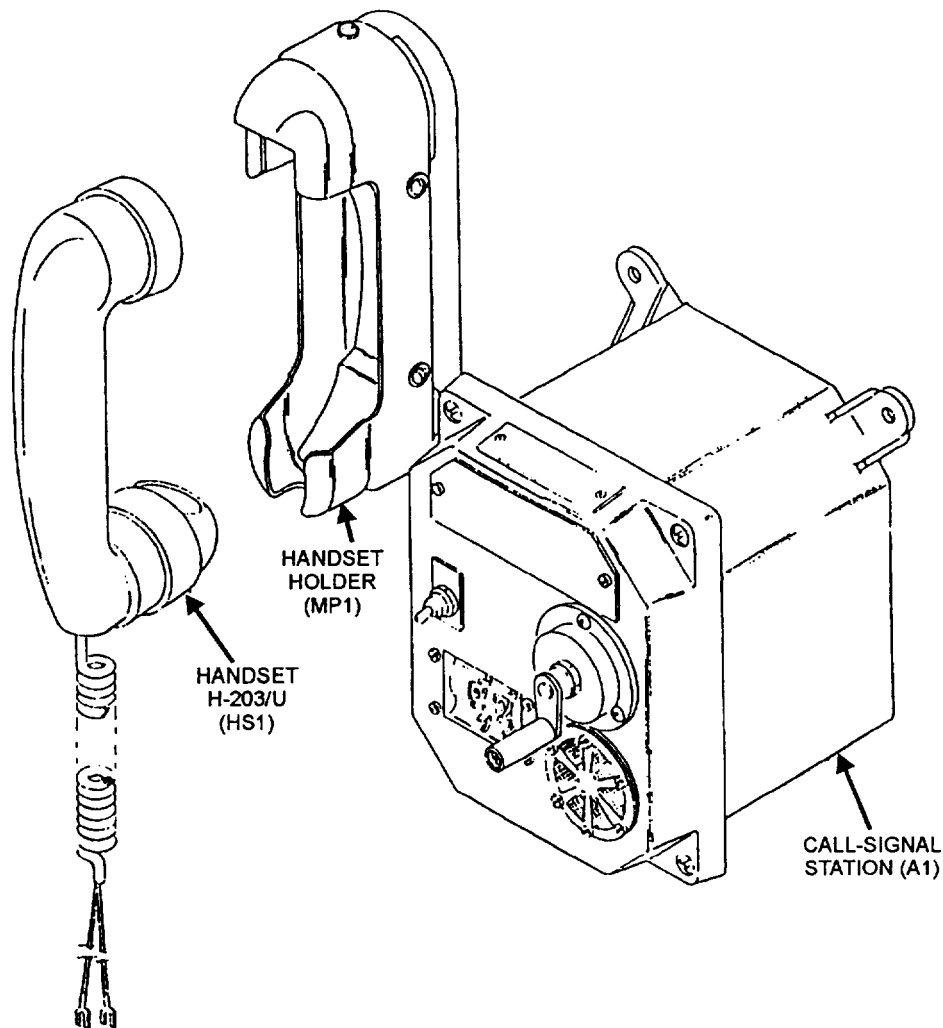

Figure 5-27.—The TA-975/WTC-2(V) sound-powered telephone set, unit 2.
**UNIT 2.**— Unit 2 (fig. 5-27) is similar to unit 1 except that the call-signal station has a front-crank hand ringing generator instead of a side-crank hand ringing generator.